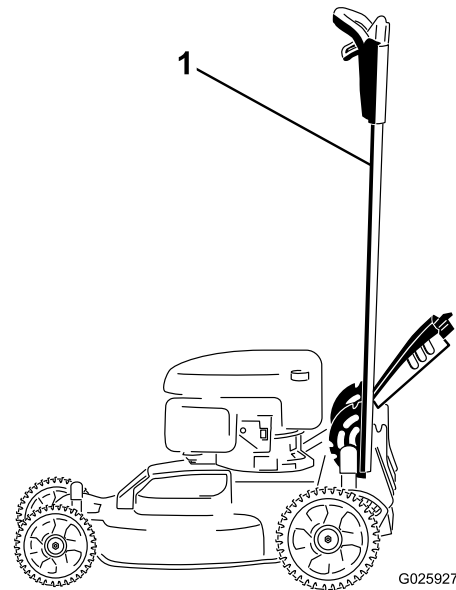

Figure 37
1. Lock the handle in the vertical position (Figure 37); refer to Adjusting the Handle Height (page 11).